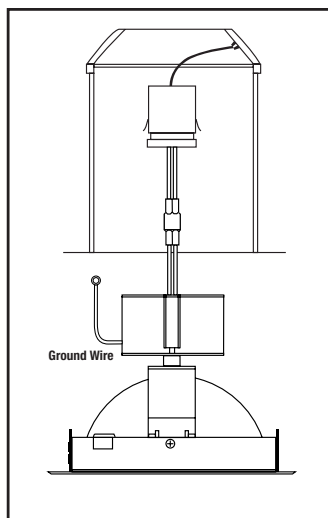

FIGURE 7
3. Use provided Medium-base socket adapter and attach each end to housing and fixture. (Fig.7)